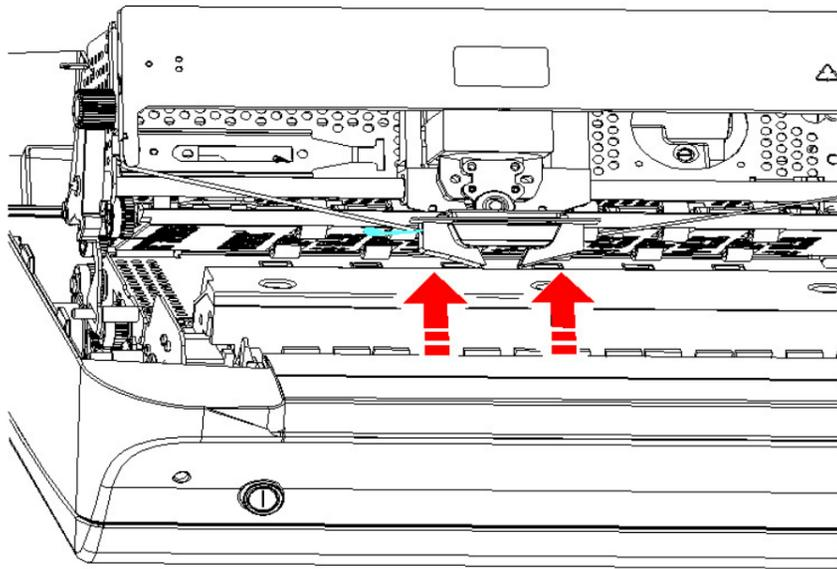

Figure 1.5-4
- Insert ribbon guide into print head and press it up to make sure that two dowels on the ribbon guide have been fixed. Please refer to the figure 1.5-4.